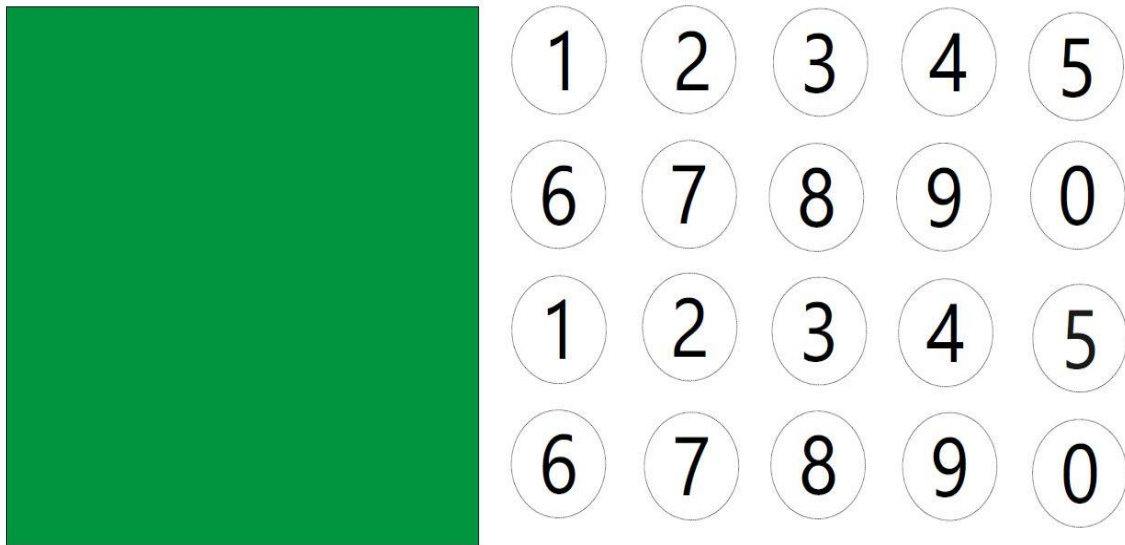

Figure 7: Green coloured patch and Numbers
- iv. Numbers and Patch Arena: this part of the arena comprises of a green colored patch for Obstacles and number cut-outs as shown in Figure 7.